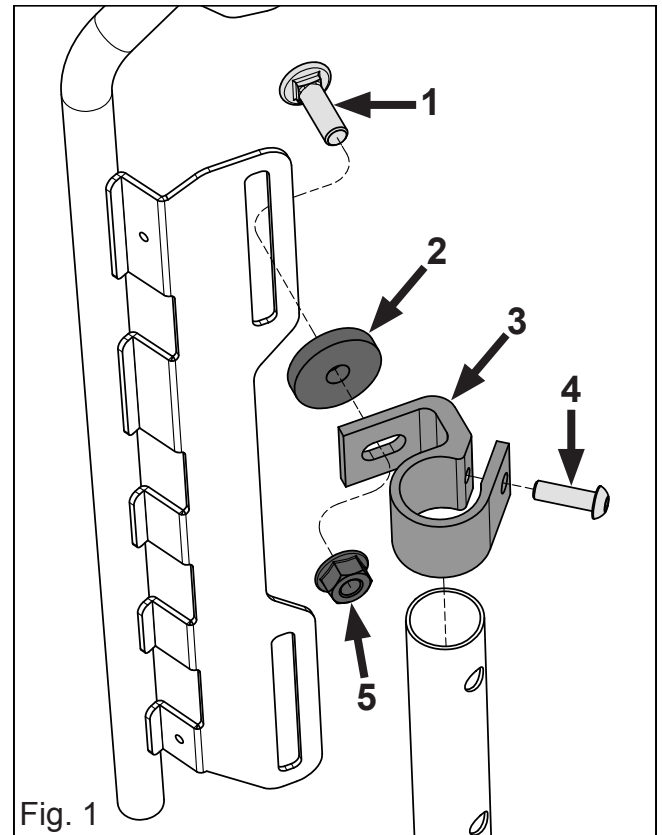

Fig. 1
2. Fit the new Flexi back brackets (3) onto the back frame (7). Make sure that they are placed as shown in figure 1 and 2. Tighten the screws (4) slightly, but not completely.
3. Fit the Flexi back (6) onto the four Flexi back brackets (3) using the bolts (1), washers (2) and nuts (5), see figure 1 and 2. Do not tighten the screws completely. *(The Washer (2) is used only on wheelchairs without thoracic supports. On wheelchairs with thoracic supports, the supports are placed between the Flexi back and the Flexi back brackets, see separate assembly instruction, art.no: 95162. Note that special thoracic support attachments are required for the wide flexi back)*